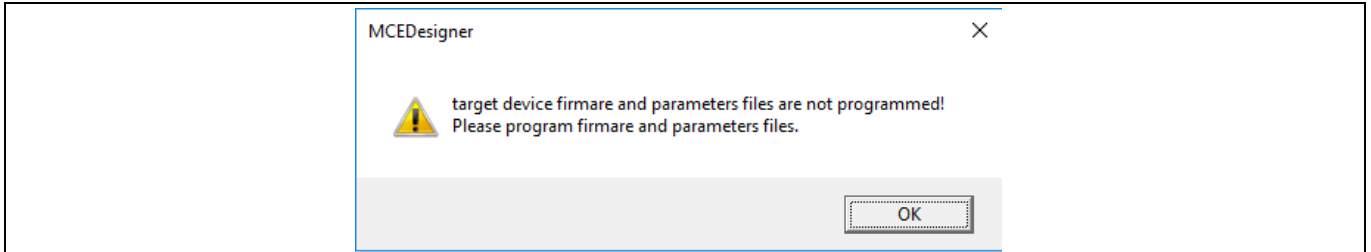

Figure 7 MCEDesigner warning message
- 8. In case of blank IC: If the firmware has been erased from the IMC101T, a warning message will pop up saying “Target device firmware and parameters file are not programmed! Please program firmware and parameters file” (Figure 7). See step 9 on how to obtain/program firmware and parameters.